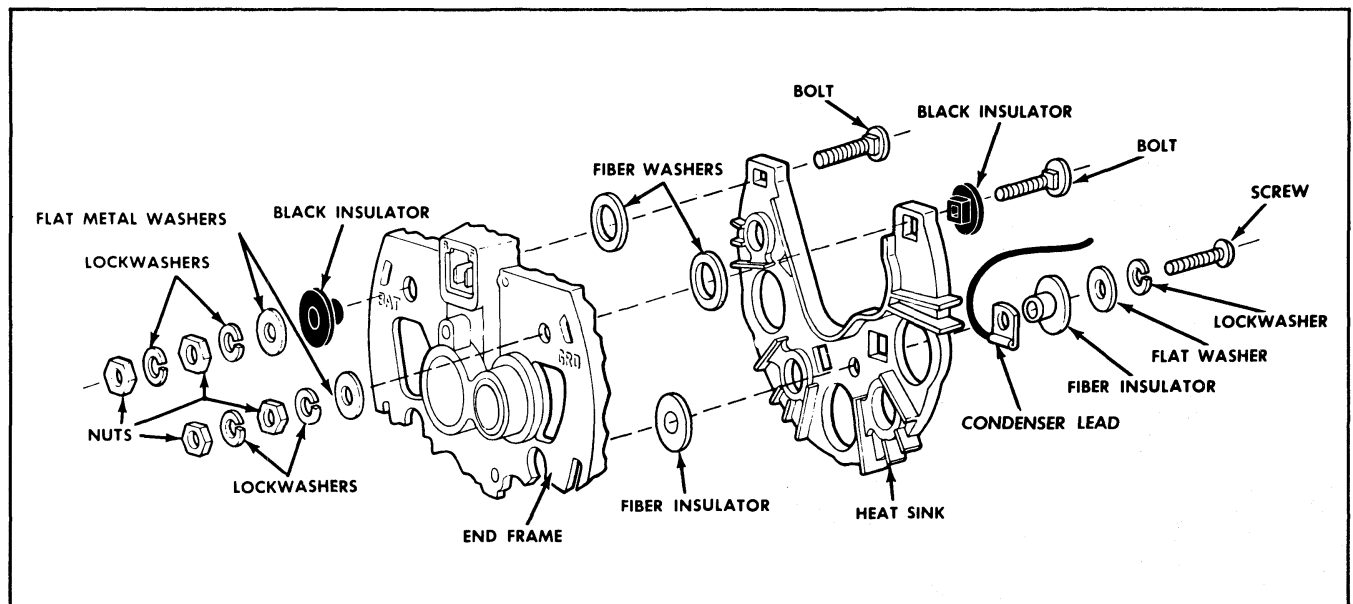

Fig. 11-25 Heat Sink Assembly
4. Replace heat sink assembly, noting the stack-up of parts shown in Fig. 11-25.